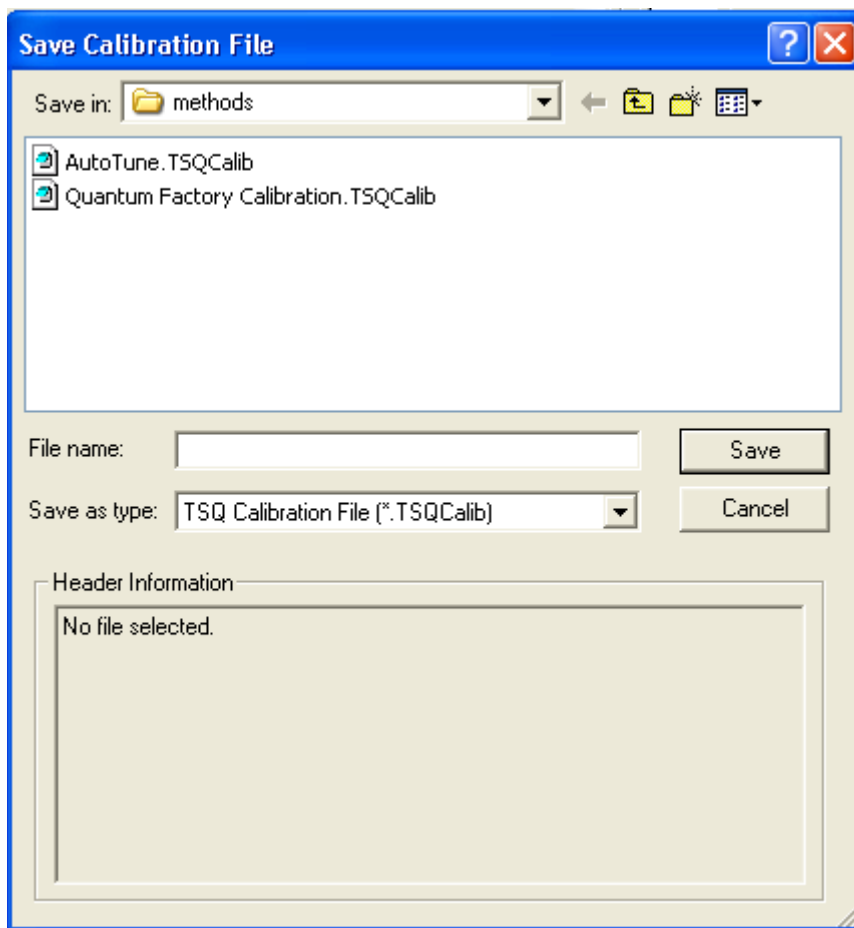

Figure 3-15. Save Calibration File dialog box.
- a. Click on **Save Calib. As** to open the Save Calibration File dialog box. See Figure 3-15.